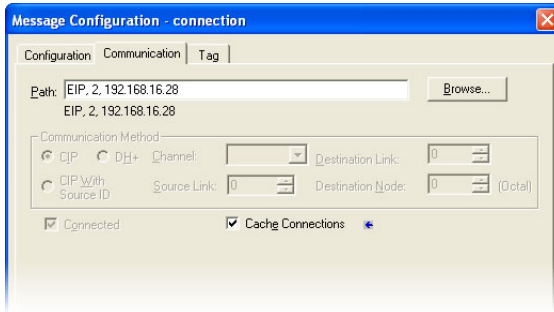

Figure 102: Setting the Communication Path
- d) "Communication" tab settings (refer to Figure 102):